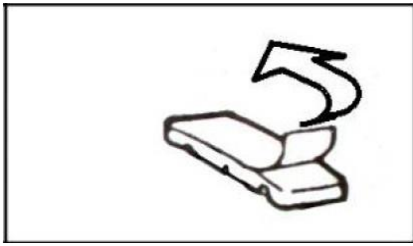

Fig 15
4.2 If your machine have automatic gauge, tear off weight put it on the head of gauge (Fig 15 16)